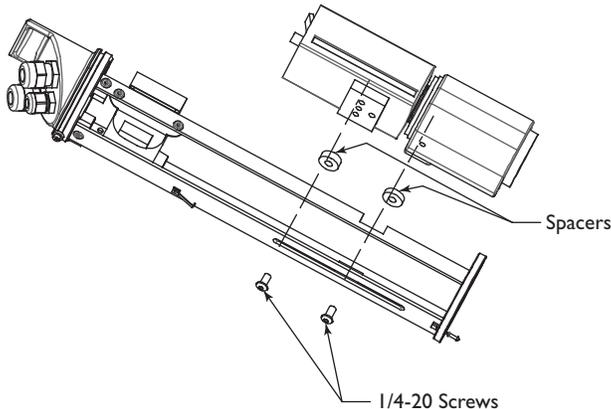

Figure 2 Mounting Camera and Lens
- 1.1 Fixed Lens Cameras: Position the camera/lens 1 mm (0.04-inch) away from the faceplate. The camera/lens is secured to the cradle with a 1/4-20 button head cap screw (BHCS) and the appropriate plastic spacer (see **Figure 2**).